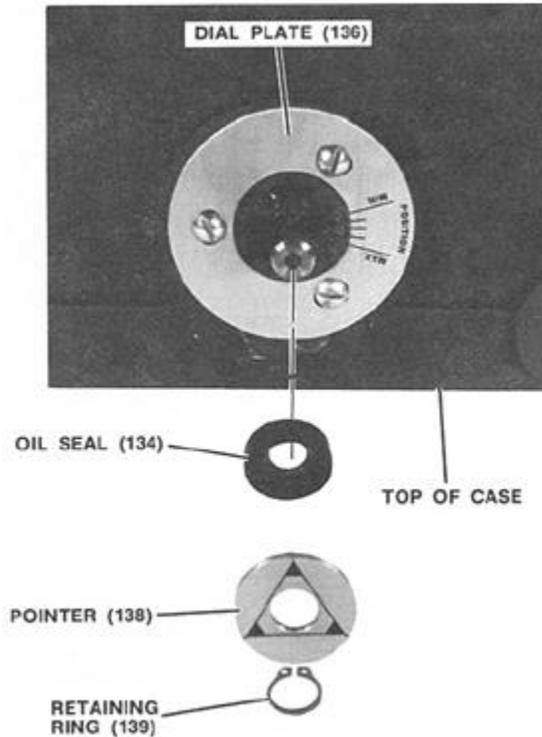

Figure 5-35. Dial Plate & Seal Assembly
31. Attach dial plates (136 and 140) with screws (137). See Figure 5-35. Place oil seal (134, cup towards case) on terminal shaft using seal installing tools T94157. Turn terminal shaft to maximum position. Place pointers (138) on terminal shaft with pointer pointing at max., and secure them in place with retaining ring (139). Adjust dial plate (136) until max. line and pointer are aligned.